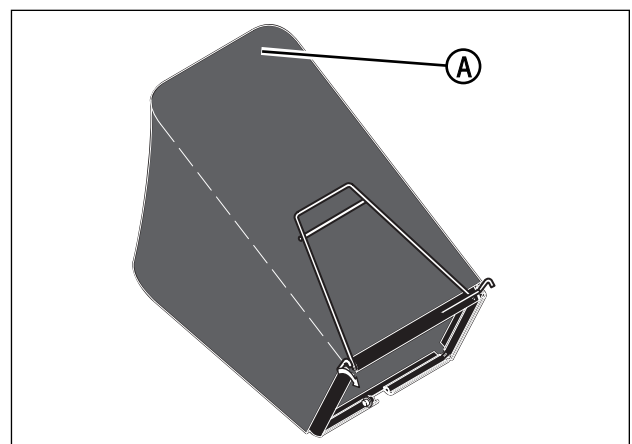

Figure 9: Closing the elastic top cover
4. Close the elastic top cover **(A, Figure 9)**. When operating the mower with the grass bag, the elastic top cover must be in the closed operating position.